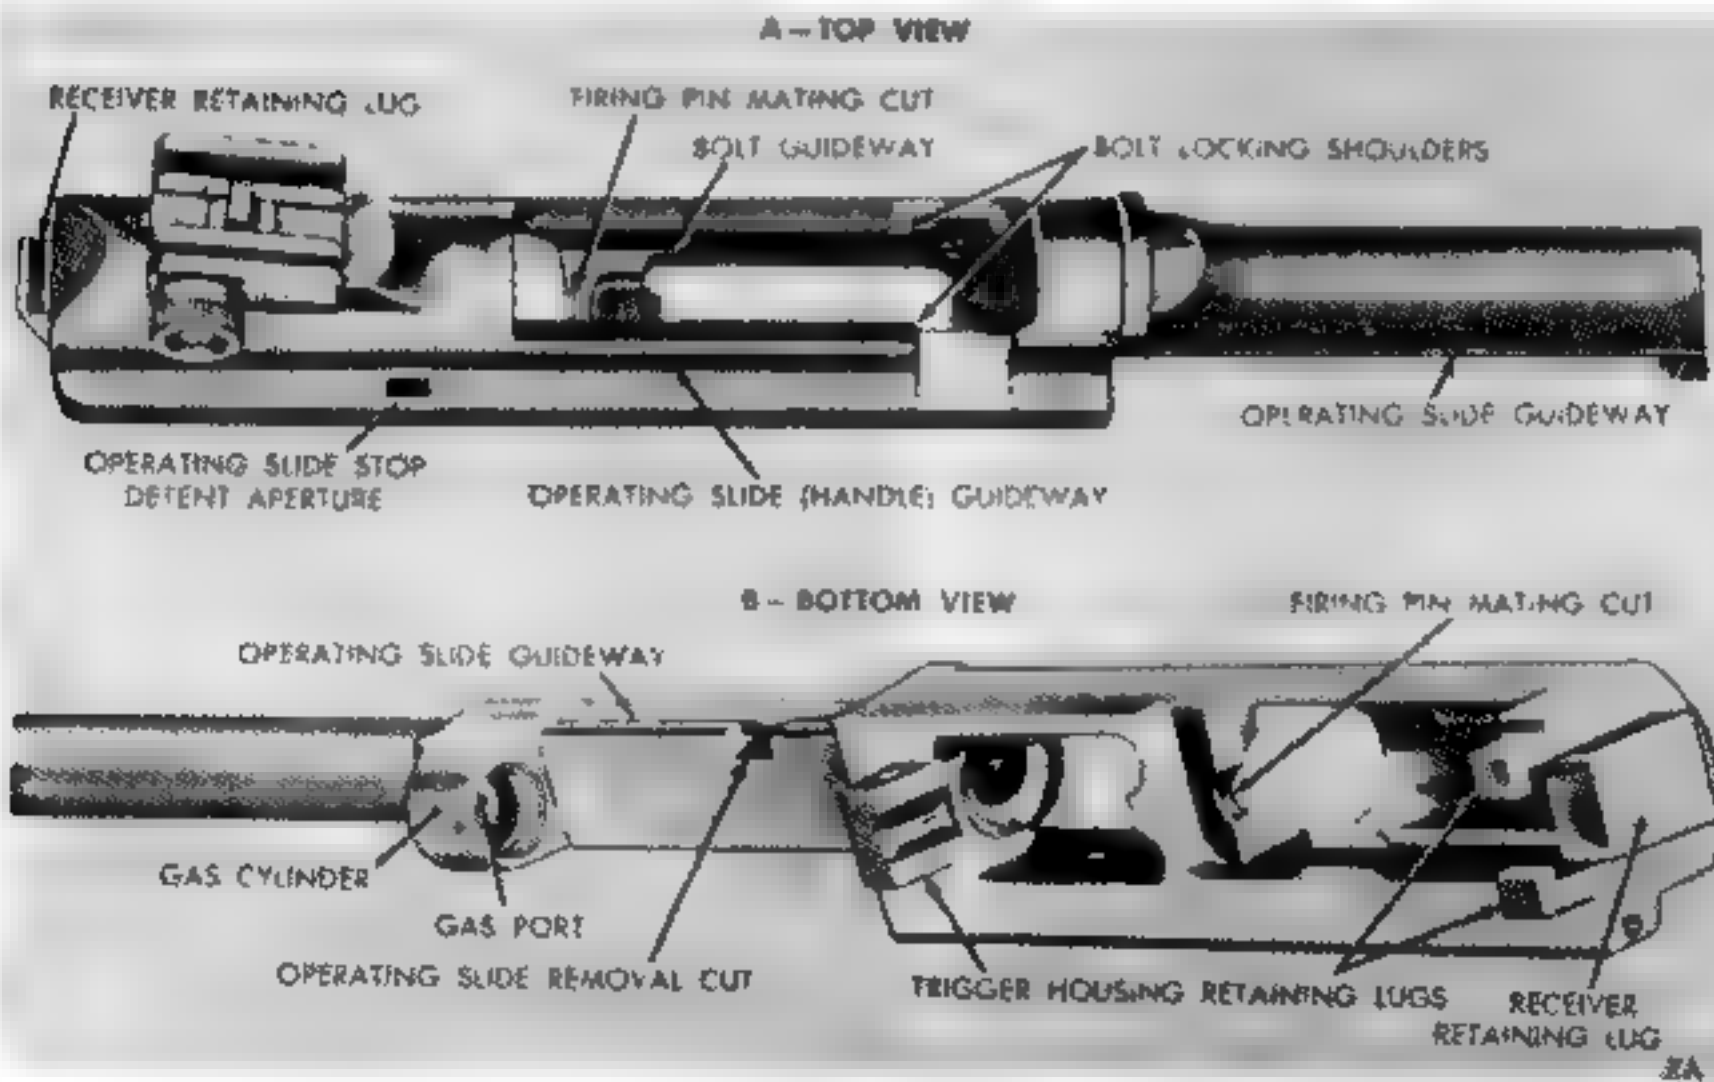

Figure 78. Barrel and receiver group - points of inspection.
- (1) Inspect operating slide spring well for rust or foreign matter. Visually inspect receiver for break-through of the operating slide spring hole. This break-through occurred in the original manufacture of some receivers because of the drill running out through either the bottom or right-hand exterior surfaces. If the forward end of the break-through is 3 inches or more from the front end of the receiver, it is acceptable; otherwise, it must be rejected (DEPOT MAINTENANCE ONLY). Any sharp or feather edges around this break-through are to be removed.
- (2) Inspect receiver under "black light" (Magnaglo or approved equal) for cracks in the area around the bolt locking slot at the right hand side and at the front and rear trigger housing retaining lugs (DEPOT MAINTENANCE ONLY). Receivers having cracks extending in both directions around a corner must be rejected.
- (3) Visually inspect condition of firing pin retracting cam mating cut in the bridge of receiver (Fig. 78). This cam was cut to an angle of 33 degrees in the earlier manufacture of receivers and later to 45 degrees. Both are acceptable if in good condition.
- (4) Visually inspect trigger housing retaining pinhole in the receiver. If out-of-roundness is apparent, reject the receiver (DEPOT MAINTENANCE ONLY).
- (5) Inspect the bullet ramp in the receiver to assure it is clean and smooth for proper feeding of the ammunition. Burrs and sharp edges should be removed by careful polishing with fine emery cloth. The lower edge of the
- (6) Inspect receiver for looseness with barrel, deformation, rust and burrs. If receiver is disassembled from barrel, inspect for worn or crossed threads in barrel aperture (DEPOT MAINTENANCE ONLY).
- (7) Inspect bolt guideway and locking shoulders for wear, burrs, cracks, and foreign matter. Inspect receiver retaining lug on rear end (Figs. 78 and 104) for wear, burrs, and looseness with recoil plate when assembled to stock.
- (8) Inspect operating slide guideway on right side for wear, burrs, and foreign matter, and operating slide removal cut for wear and burrs. Inspect operating slide stop detent aperture for wear, burrs, and foreign matter. Forward surface of aperture should be at a sharp right angle to receiver, and with a clean edge to facilitate retention of stop, and rear face smooth and sloping to facilitate camming. Inspect the rear inside face of receiver for foreign matter.
- (1) The muzzle of all barrels must be counterbored (Fig. 78) during rebuild to remove tool marks, nicks,